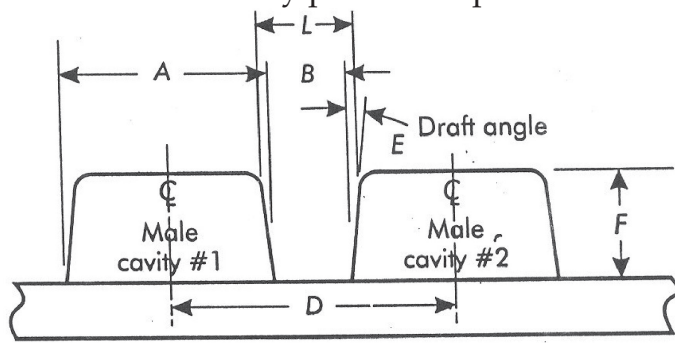

Figure 4. Male mold standard cavity separation.
- b) Male cavities need to achieve a compromise for the most desirable center-to-center dimensions. Details shown on Fig. 4 are an attempt to provide a guide to the most efficient layout. If the cavities are grouped too closely together, webs can